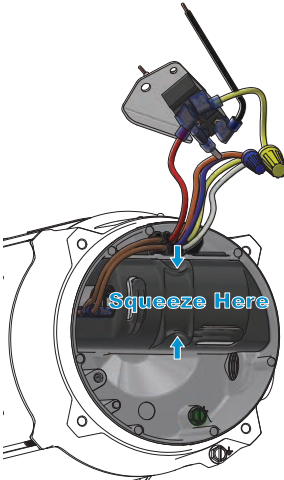

Figure 6
4. Remove the wires from their organizer clips and remove the plastic cover. (see Figure 6)